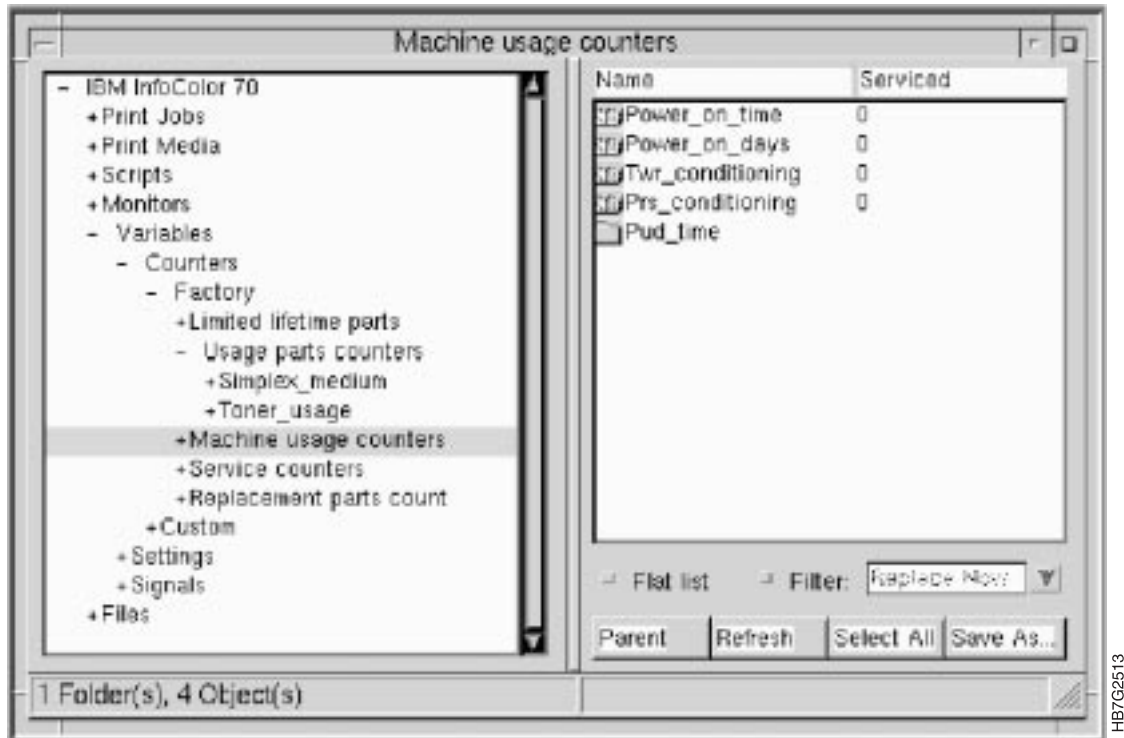

Figure 183. Machine Usage Counters Window
- 3 Click again on **Machine usage** counters and you will see the counters in the list view or right side of the **Machine usage counters** window, as shown in Figure 183 on page 269. The counters are described in Table 58 on page 269.